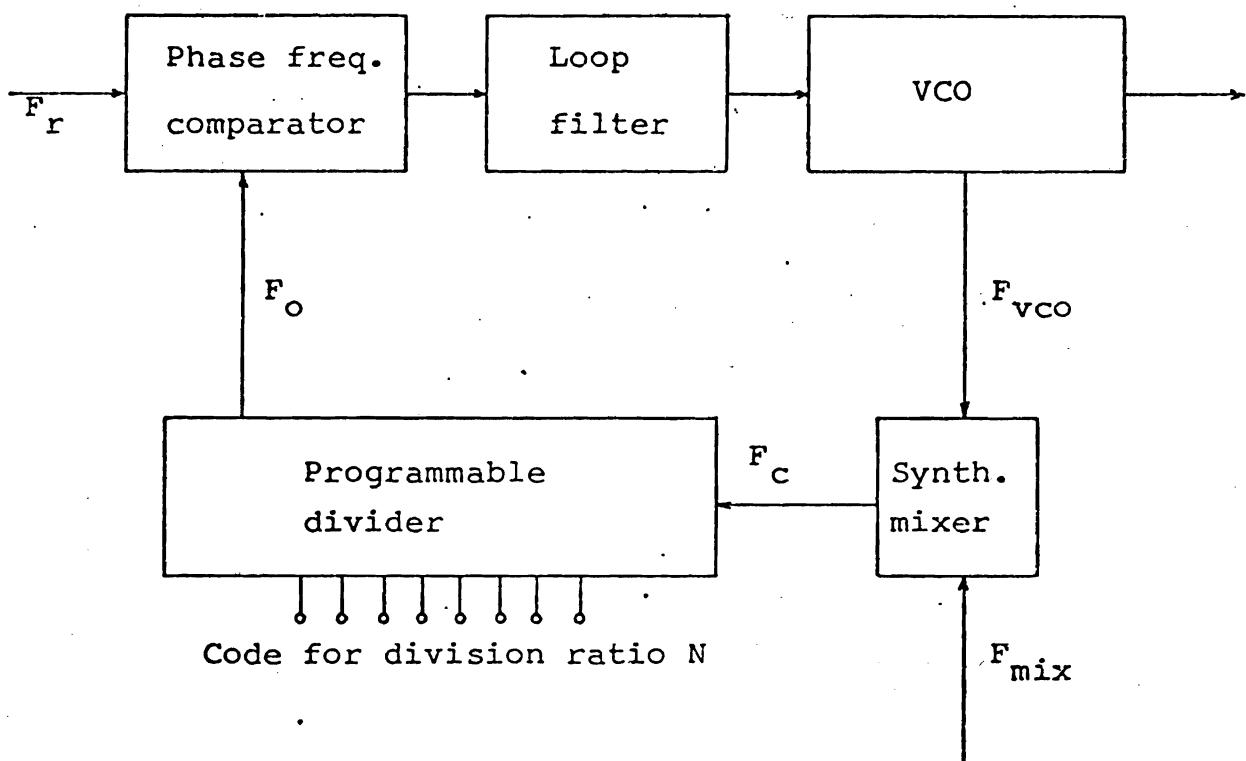

Fig. 3 Synthesizer loop
A multichannel synthesizer (Fig. 3)
To build a multichannel synthesizer we have to add some more components (Fig. 3) but the basic function is the same. Here the VCO frequency is converted to a lower frequency F_c suitable for the digital divider. $F_c = F_{vco} - F_{mix}$ (1). When the loop is in lock the incoming frequencies F_r and F_o are equal and the phase difference is zero. $F_o = F_r$ (2). The programmable divider divides frequency F_c with a number N , which can be selected by a binary code. $F_c = N \times F_o$ (3).